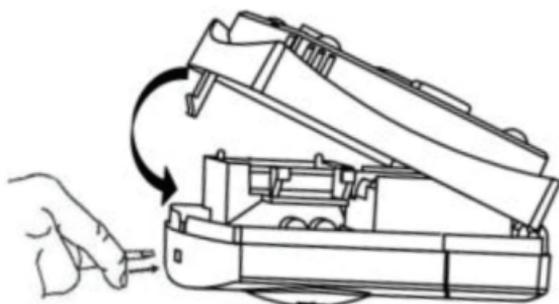

Fig.1
1. Remove the front cover using a flat screwdriver (Fig.1) and separate from back plate (Fig.2).